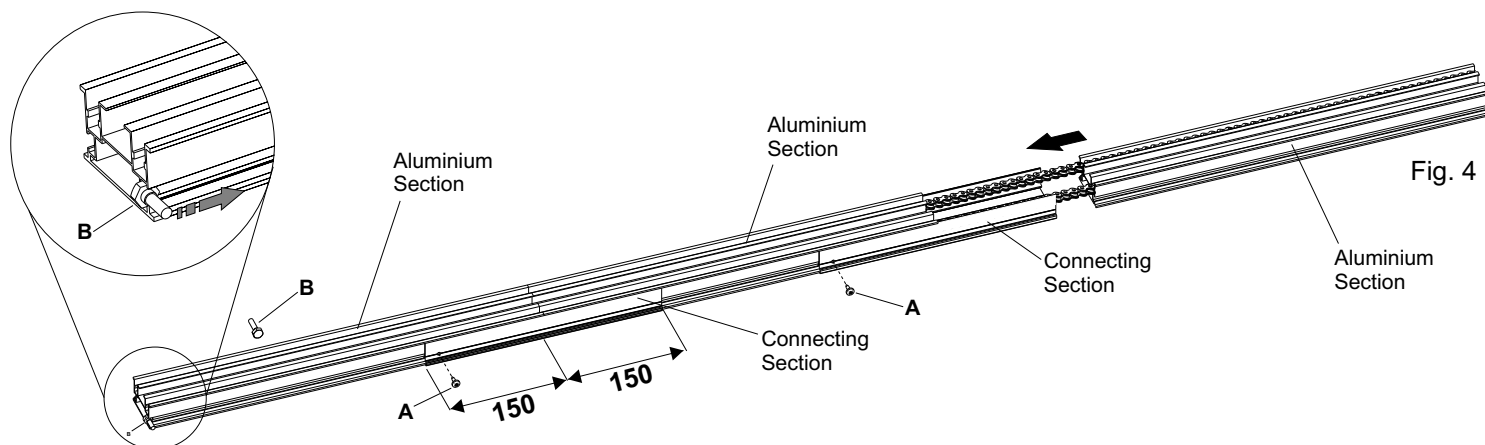
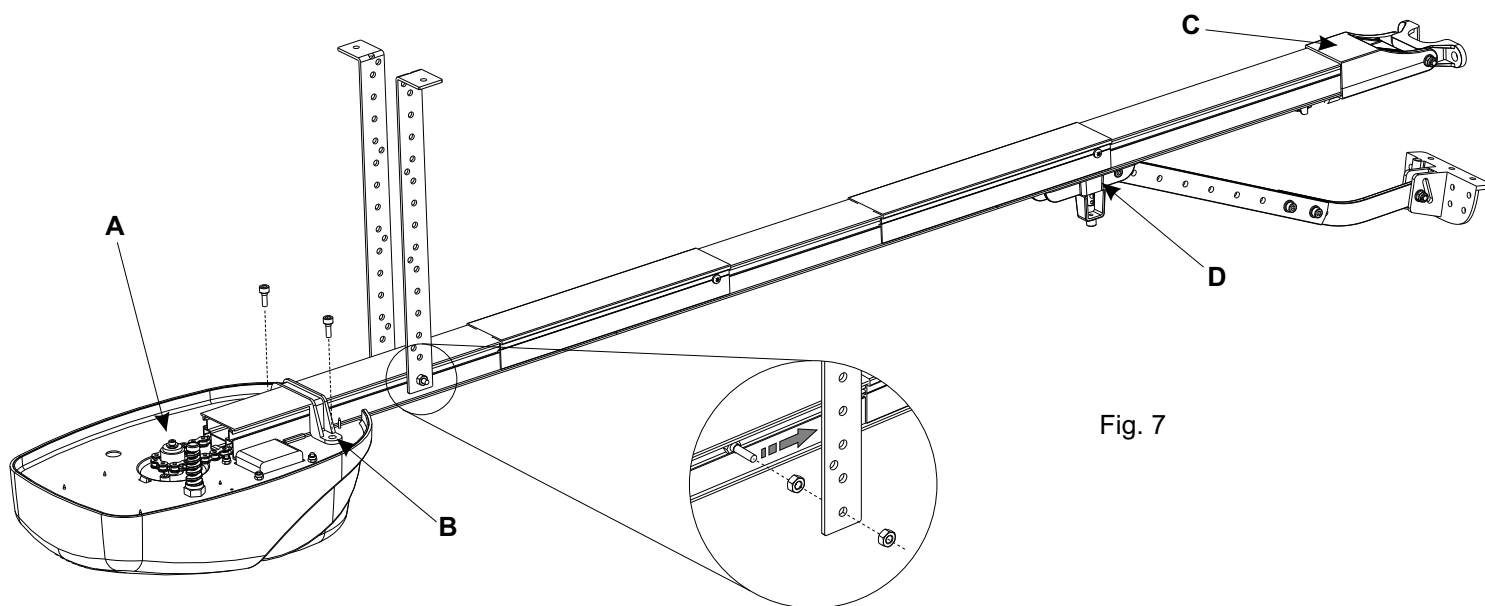

Fig. 4
Fig. 7
- Put the connecting section into the aluminium section until the middle of its length (150 mm) and fix it with the **A** screw. (Fig. 4)
- Put the two supplied screws (**B**) into the holes of the aluminium sections (Fig. 4)
Notice: In Fig.4 there is a couple of screws put inside the holes which will be used to fix Corona to the ceiling through the provided sections (See also Fig. 7).
- Make sure the chain has been correctly put in the pinion of the Corona body (Fig. 7 - A)
- Bring the guide to the stop on the Corona body and fix it with the provided bracket (Fig. 7 - B)
- Fix the front connection support to the other extremity of the guide. (Fig. 7 - C)
Notice: The chain and the sliding support must be always lubricated. (Fig. 7 - D).